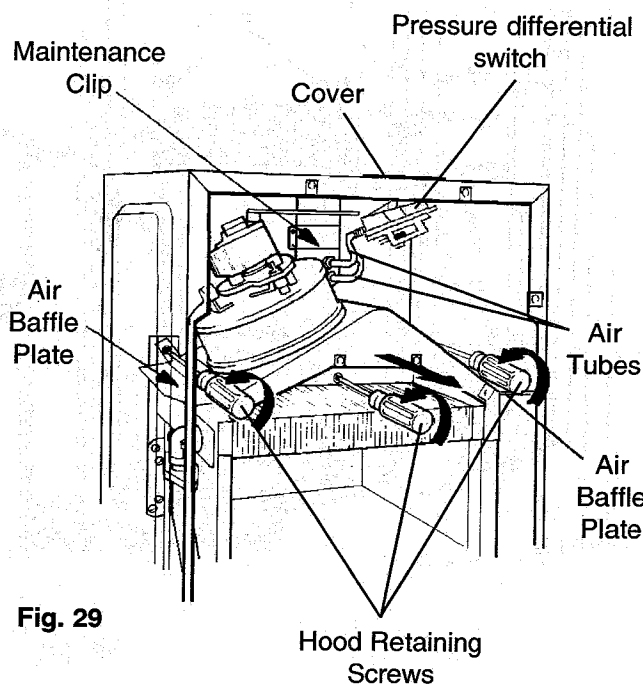

Fig. 29
- 8.8.4 Remove two air baffle plates. 1 screw securing each (fig. 29).
Refer to fig. 29.
Refer to fig. 29
- 8.10.2 Remove 5 screws on pressure differential switch cover (fig. 29) and remove cover.